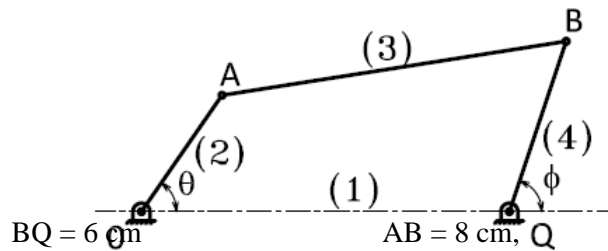

Figure.16
- 1.4 In the four-bar mechanism shown in Figure.16, axes O and Q are fixed. Determine its type. If the link (2), which is the driver, turns C.C.W., find the two extreme positions of QB and the angle through which link (4) oscillates.